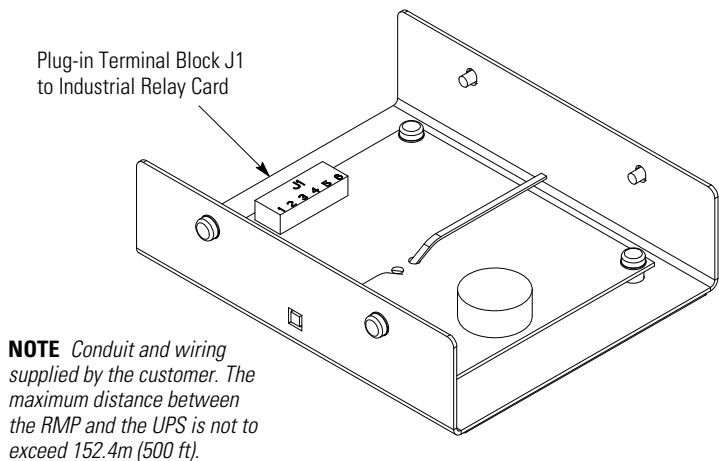
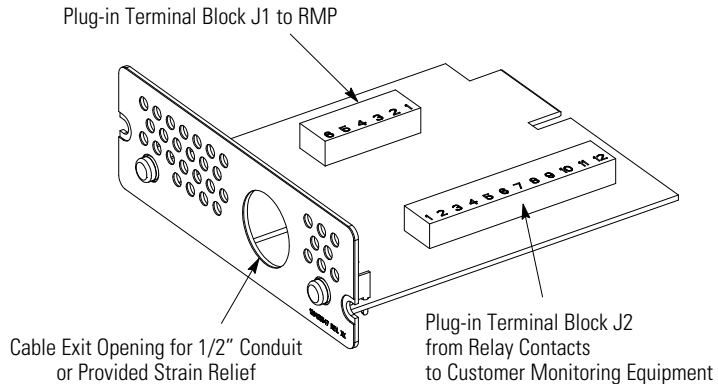

Figure 37. RMP Top Internal View
Figure 38. Industrial Relay Card
3. Install wiring from the RMP to the IRC using the cable listed in Table 6 and the provided strain relief bushings in the cable exit openings in the IRC (see Figure 38) and the RMP.
4. Connect the wiring between the RMP and the IRC plug-in terminal blocks using terminations shown in Table 6. See Figure 37 and Figure 38 for plug-in terminal block locations.
The IRC uses normally-open or normally-closed dry relay contacts to indicate the UPS status as listed in Table 7. Figure 38 shows an IRC.
2. Install wiring from the IRC to the monitoring equipment using 1/2" conduit through the cable exit opening in the IRC (see Figure 38).
3. Connect wiring between the IRC and the monitoring equipment using terminations shown in Table 7. See Figure 38 for plug-in terminal block locations.